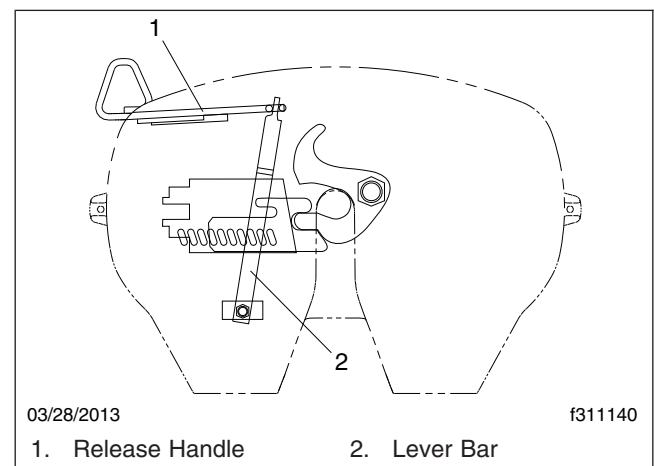

Fig. 2, Lever Bar and Release Handle Alignment
5. The lever bar and release handle must be in proper alignment. See Fig. 2. Compare the lever bar and release handle alignment to a new, or a properly operating lever bar and release handle. Replace any bent or misaligned lever bar or release handle.